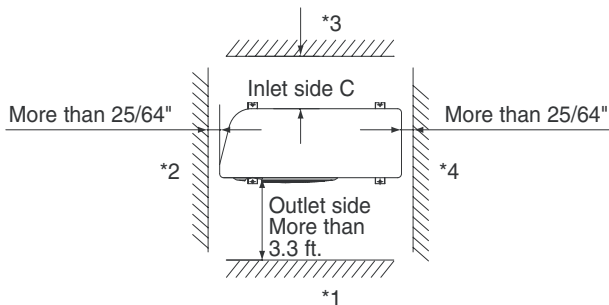
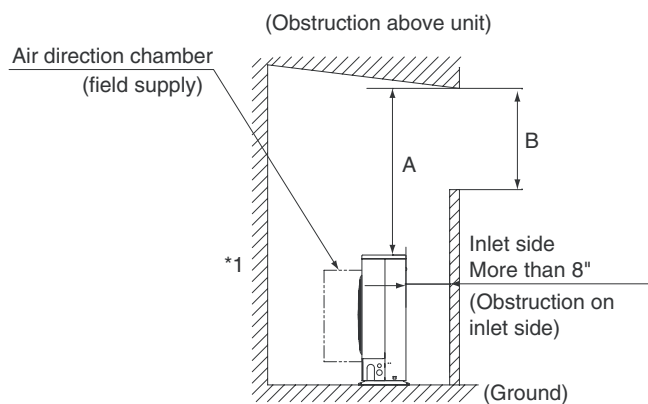

Fig. 1-2
Fig. 1-3
- allow enough room around the unit for air intake/ exhaust and possible maintenance. (Fig. 1-2)
- Concerning inlet-side distance "C" (Fig. 1-2)
- If wall *1 is on the outlet side (Fig. 1-2), or if obstructions are present on all 3 sides *2, *3, and *4 (Fig. 1-2), then the minimum distance for "A" and "B" is 80" (Fig. 1-3). Even if there is no wall on the outlet side, a minimum of 3.3 ft. is required.